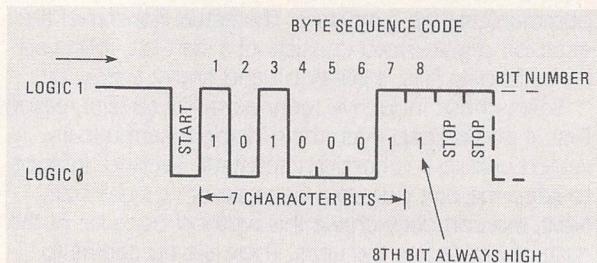
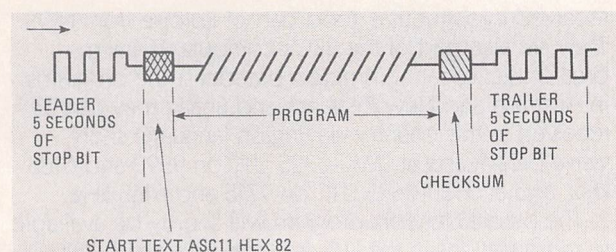

FIG. 2—THE LETTER 'E' shows the byte sequence code. You'll find a start bit, seven character bits, the eighth bit and two stop bits, a total of eleven bits.
FIG. 3—THE TONE SEQUENCE used for the actual broadcast transmission, which is eventually recorded by the user.
the UC-2200 controller. Communicating inductively, the controller uses the wrist module as its display device. As shown in Fig. 3, the UC-2200 controller contains an 8-bit CMOS Z80-equivalent microprocessor. It boasts not only a complete, typewriter-style QWERTY keyboard with function keys, but also a dot-matrix mini-printer. The controller also features 4K of RAM
**FIG. 3—THE CONTROLLER MODULE contains a CPU, RAM, ROM, an optional ROM containing applications software, a keyboard encoder, buzzer driver and transmitter, a keyboard, printer controller, printer, buzzer, and loop antenna.**
All characters are represented in ASCII (American Standard Code for Information Interchange). Since only seven bits are used to represent an ASCII character, the eighth bit is always automatically set high (1). The complete character consists of a start bit, seven character bits, the eighth bit, and two start bits. A total of eleven bits; exactly the same format as used for a standard 110 baud teletypewriter. Figure 2 shows how the character "E" would be transmitted. Figure 3 shows the tone sequence used for the actual broadcast transmission, which is eventually recorded by the user. The complete off-the-air signal consists of: Leader, 5 seconds of 2400 Hz; Start text, ASCII "Start Text" (Hex 82); Program, BASIC in ASCII; Checksum, and Trailer, 5 seconds of 2400Hz. The checksum at the end is derived from the bit indication of exclusive-OR of the previous bytes, and is expressed as an 8-bit term. The purpose of the Checksum is to allow the user to test whether the program has been read from the tape
Figures 2 and 3, photographs from two high-performance, moderate-cost monitors, show how it's done. Figure 2 is from a Quadram HX-12, one of the highest performance 200-line monitors: By any standards, it is sharp! Figure 3 is the same display from the Princeton SR-12. Note that no scanning lines can be seen. While the edges of the characters displayed on the SR-12 are not as sharp as those of the HX-12, the SR-12's *apparent* sharpness is greater because the normal scanning lines are "filled in."
**FIG. 3—THE SAME DISPLAY** from a Princeton SR12 640 × 400 high-performance monitor shows no spaces because an additional 200 lines repeating the same data has been interleaved with the original 200 lines. While the edges of the characters are not as sharp as those on the 200-line monitor, visually the display appears sharper and seems to have greater resolution because there are no spaces between the scanning lines.